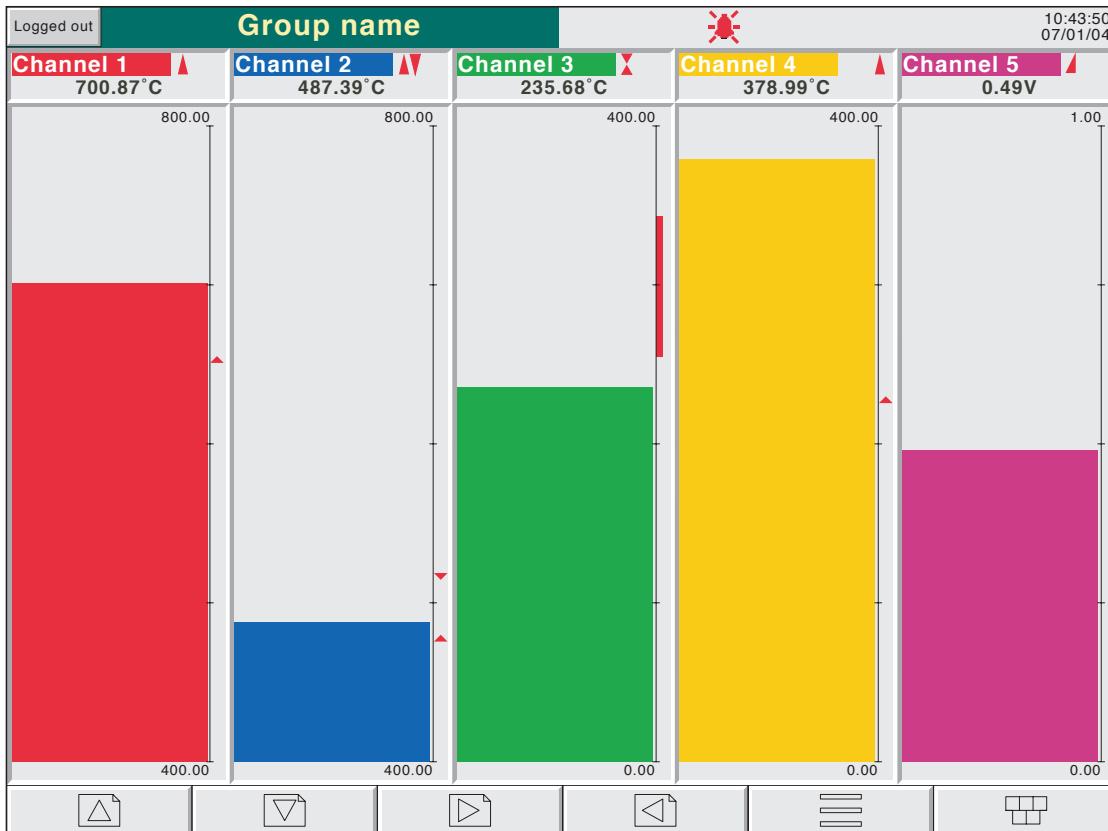
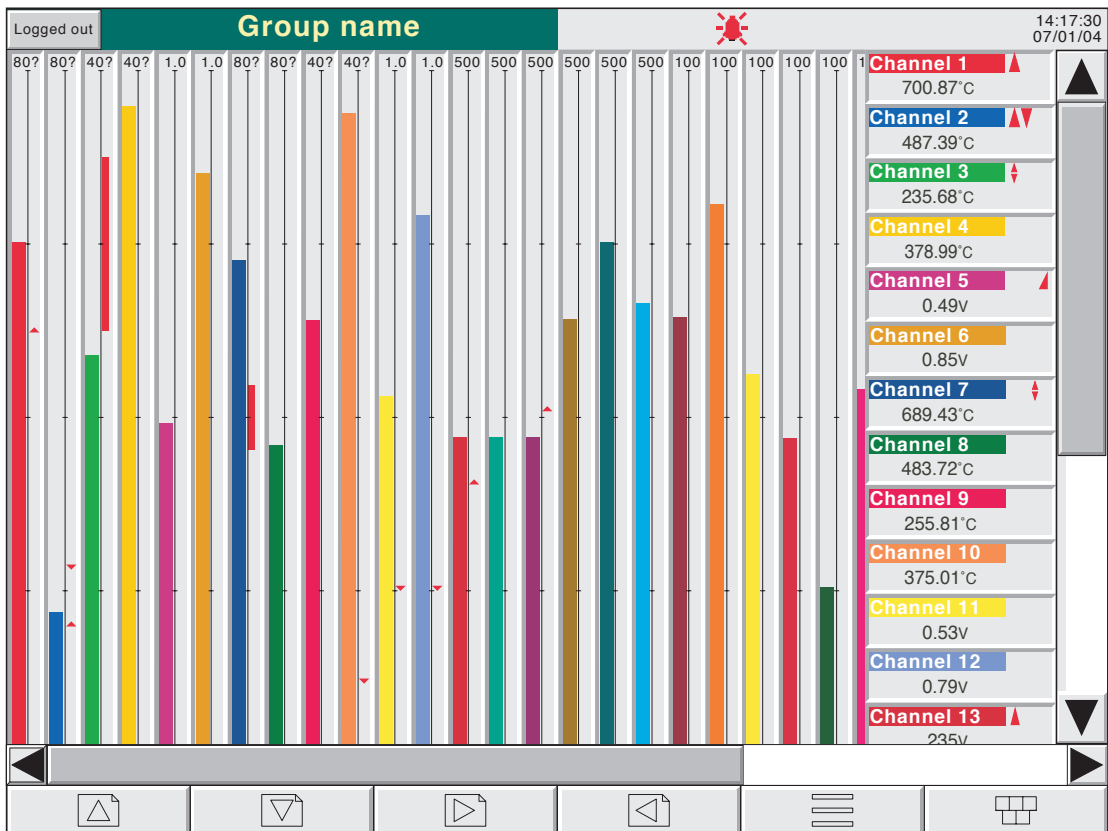

Figure 3.4.3a Vertical bargraph display (1 to 6 points)
Figure 3.4.3b Vertical bargraph display (more than 6 points)
Entered from Horizontal Trend mode by means of the down arrow key, or selected from the Root Menu 'Goto View' key, this display mode shows the Process Variable (PV) values as vertical bars with faceplates containing digital values and alarm data. There are two versions, one with faceplates above the bars (1 to 6 channels - figure 3.4.3a); the other (with faceplates at the right hand edge of the display - figure 3.4.3b) is used where there are more than six channels (note 1).
See figure 3.4.3a.
As the number of PVs increases, the bars get narrower. As the bars get narrower, so the scale values become truncated as shown in figure 3.4.3b. The bars have a set minimum width, and if the total number of points in the group cannot be displayed within the width of the screen, a horizontal scroll bar appears, allowing 'hidden' bars to be viewed. Similarly, the faceplates reduce in height to a minimum readable height. If there are more point faceplates than can be accommodated within the height of the screen, a vertical scroll bar appears, allowing hidden faceplates to be displayed as required.